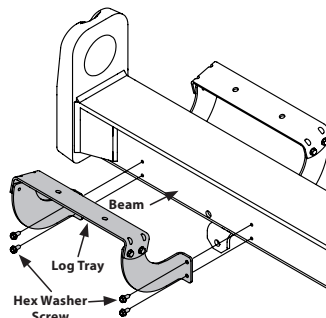

Figure 8
18. Reattach the log tray to the control valve side of the beam, aligning the holes in the tray with the holes in the beam and re-installing the hardware removed in step 15. See Figure 8.